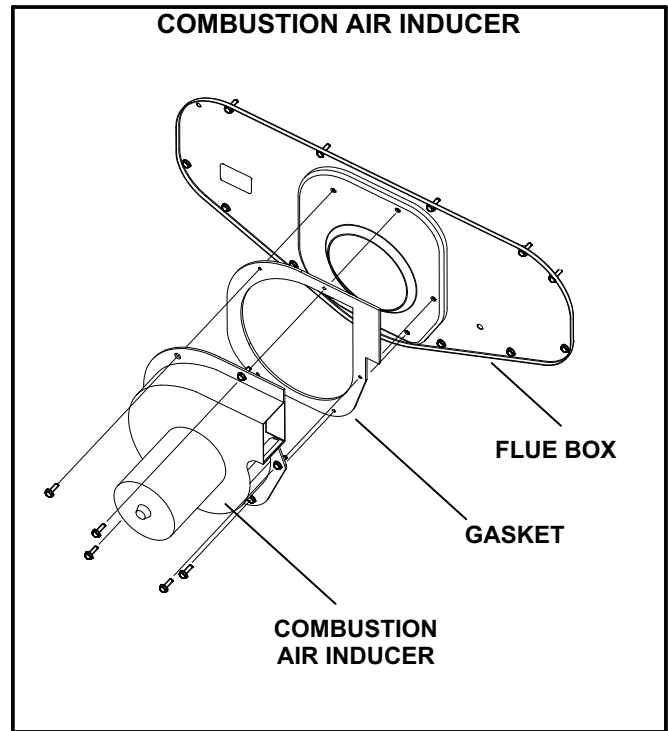

FIGURE 5
- 7- Install replacement combustion air inducer and gasket. See figure 5. Secure with screws provided in kit.